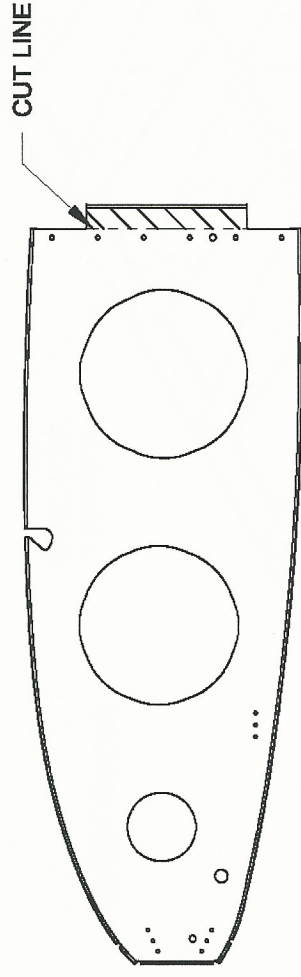

FIGURE 1: W-1208 NOSE RIB AFT FLANGE TRIM
Step 2: Select 13 of the 14 W-1208-L Nose Ribs and trim the aft flange as shown in Figure 1.
Step 5: Take seven of the 14 W-1208-R Nose Ribs and trim off the aft flange as shown in Figure 1.